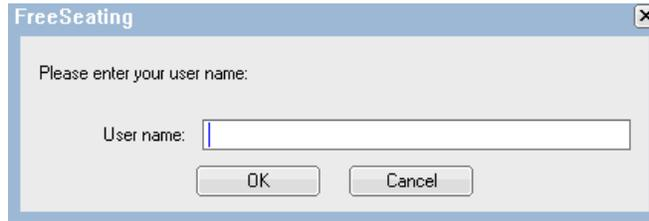

Figure 5-10 Free seating connection with Connection Management
3. On the CP20, click **Connect**. You are prompted to enter a user name. Enter the name that you just assigned to the HC10 and press **OK** (see Figure 5-10).